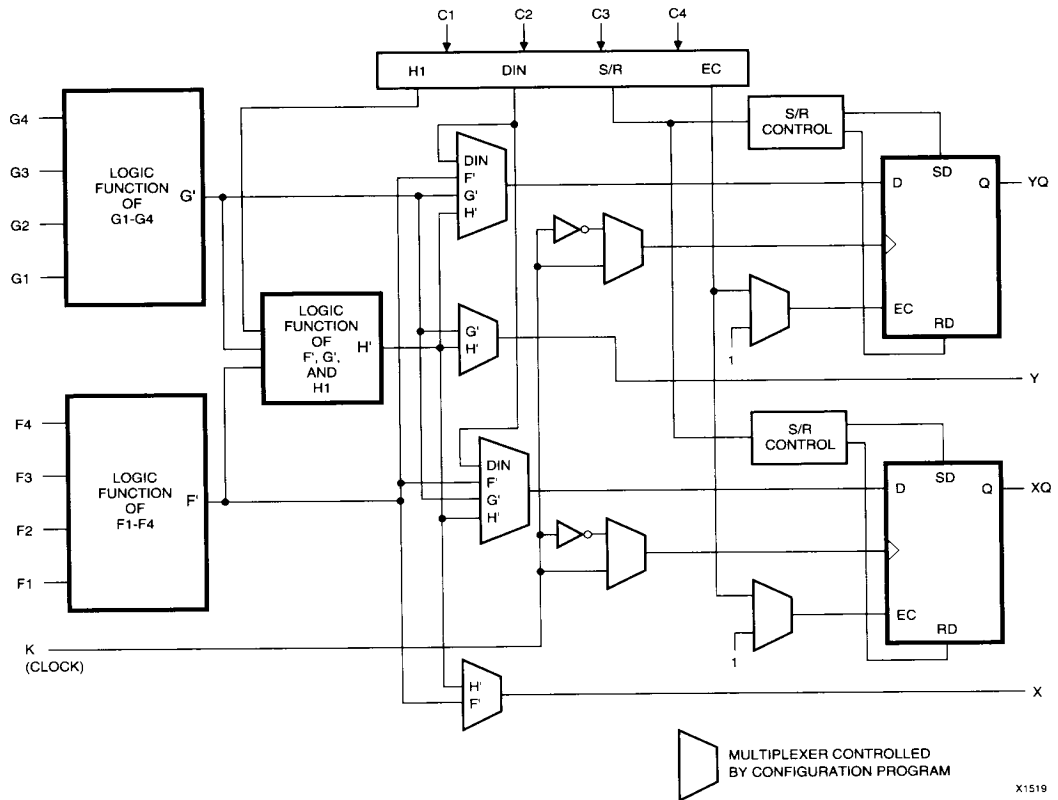

Figure 1. Simplified Block Diagram of XC4000 Configurable Logic Block
A number of architectural improvements contribute to the XC4000 family's increased logic density and performance levels. The most important one is a more powerful and flexible CLB surrounded by a versatile set of routing resources, resulting in more "effective gates per CLB." The principal CLB elements are shown in Figure 1. Each new CLB also packs a pair of flip-flops and two independent 4-input function generators. The two function generators offer designers plenty of flexibility because most combinatorial logic functions need less than four inputs. Consequently, the design-software tools can deal with each function generator independently, thus improving cell usage.
The two storage elements in the CLB are edge-triggered D-type flip-flops with common clock (K) and clock enable (EC) inputs. A third common input (S/R) can be programmed as either an asynchronous set or reset signal independently for each of the two registers; this input also can be disabled for either flip-flop. A separate global Set/Reset line (not shown in Figure 1) sets or clears each register during power-up, reconfiguration, or when a dedicated Reset net is driven active. This Reset net does not compete with other routing resources; it can be connected to any package pin as a global reset input.
Multiplexers in the CLB map the four control inputs, labeled C1 through C4 in Figure 1, into the four internal control signals (H1, DIN, S/R, and EC) in any arbitrary manner.